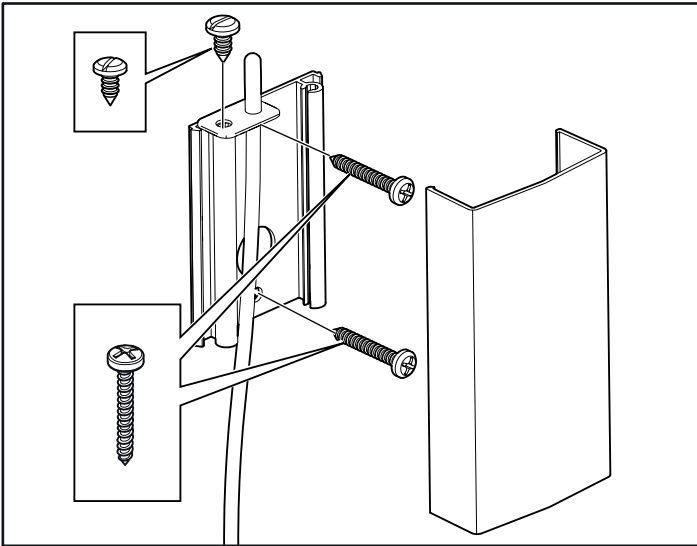
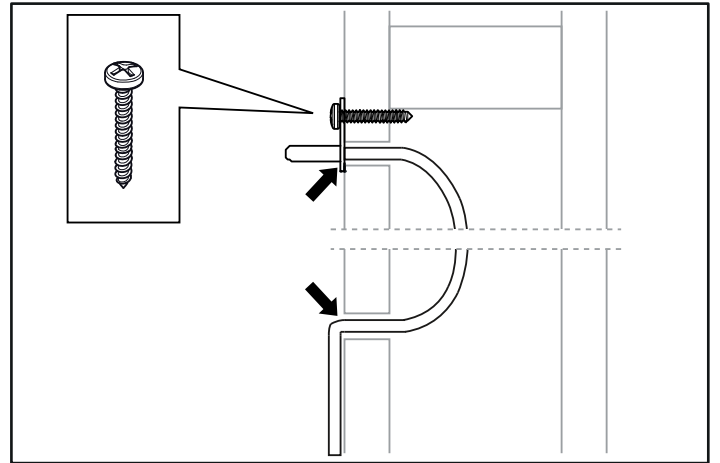

Figure 15: Installing the sensor
Figure 16: Seal any holes
13. Install the sensor on the wall see Fig 15. The thermistor wire may also be passed through the wall. Seal any holes in the wall behind the sensor, see Figure 16, page 11. The thermistor wire may be extended outside the sauna using low voltage wire (2-lead).